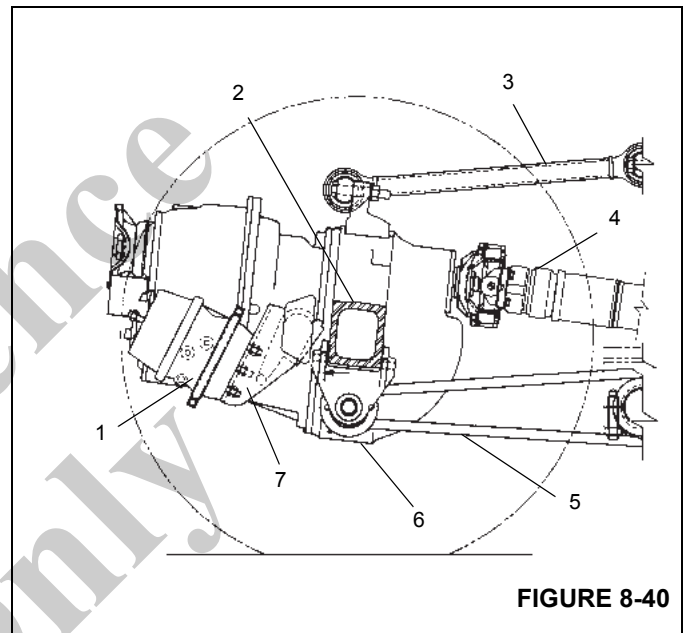

FIGURE 8-40
5. Unbolt the air brake chamber from the mounting bracket and remove the air brake chamber (see Figure 8-40).